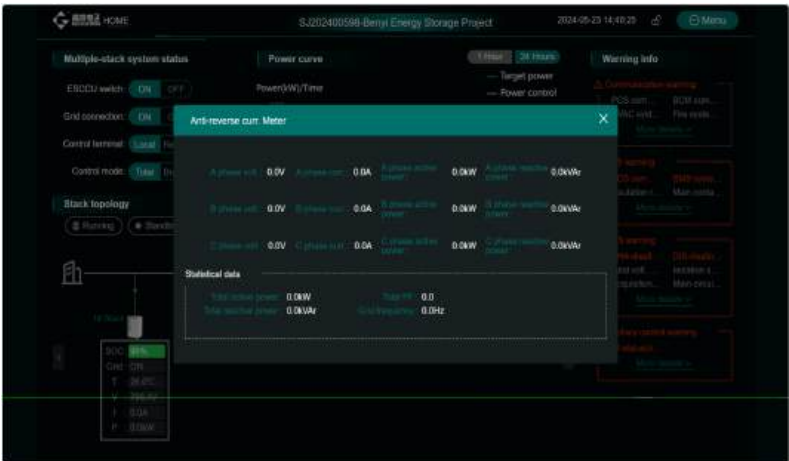

Fig.6-1-5 Anti-reverse current meter details
- ◆ Anti-reverse current meter, displaying the current active power, click on it to display the details as shown in Figure 6-1-5.